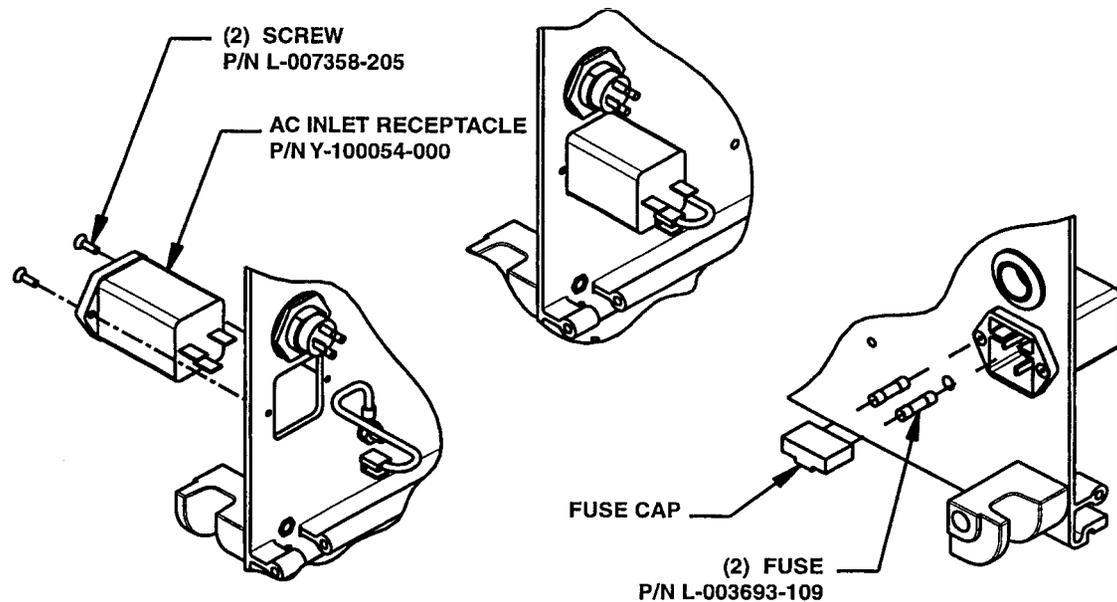

FIGURE 4-42.
1. Insert the AC inlet receptacle (P/N Y-100054-000) into the designated hole from the outside of the rear extrusion, noting the receptacle's orientation. Figure 4-42.